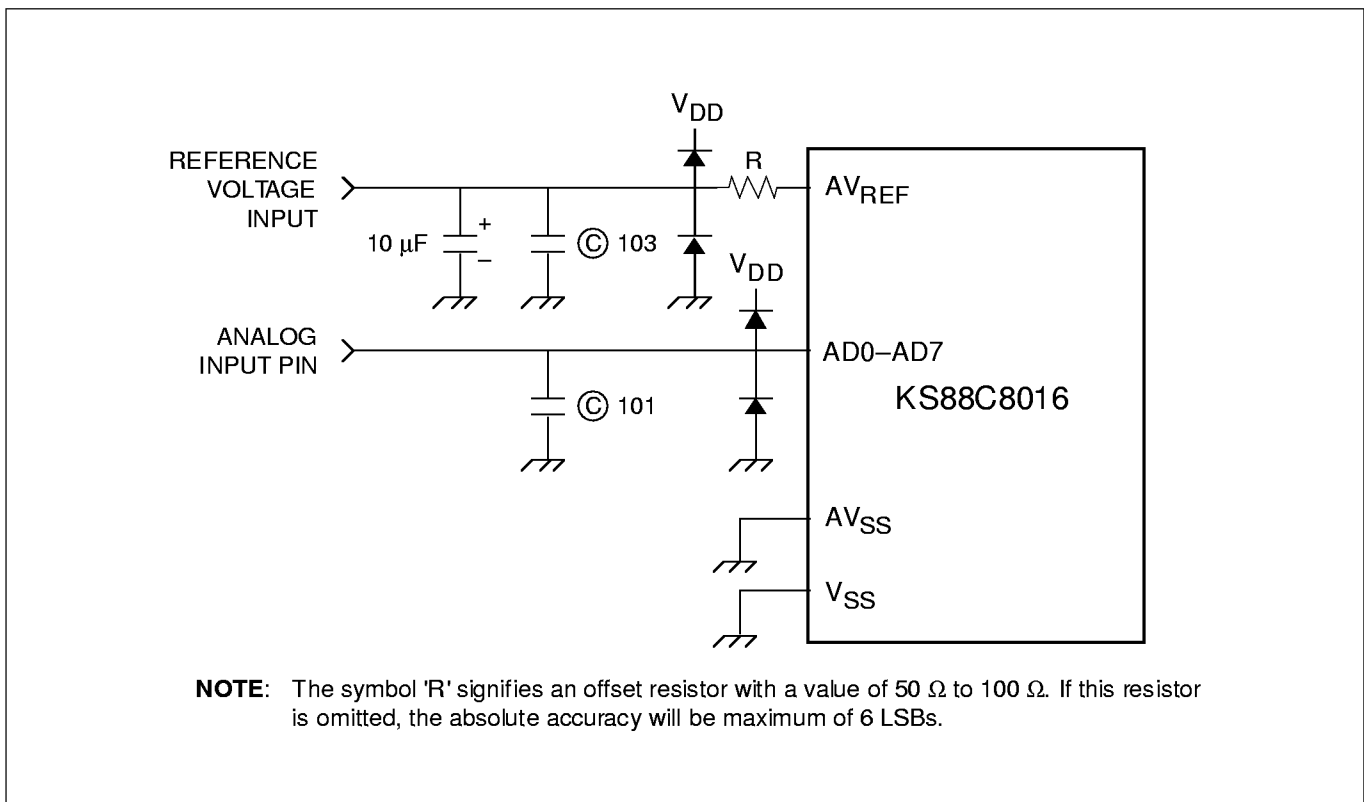

Figure 65. Recommended A/D Converter Circuit for Highest Absolute Accuracy
1. Excluding quantization error, absolute accuracy values are within ± 1/2 LSB. Absolute accuracy of 3 LSB can only be guaranteed when the offset error is adjusted to its optimal value (see Figure 65).